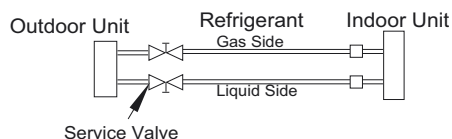

Fig. 18 – Service Valves
1. Completely tighten the flare nuts of the liquid and gas pipes on the indoor and outdoor side (for all fan coils) (see Fig. 18).